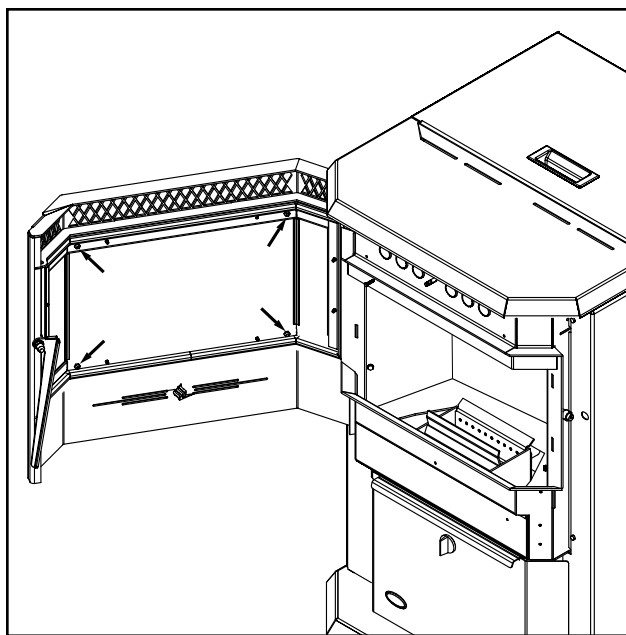

Figure 37: Inner side of door
When stove is off and cool, open the door. Remove the four (4) #8 hex nuts around the inside of the glass retainer shown in Figure 37.